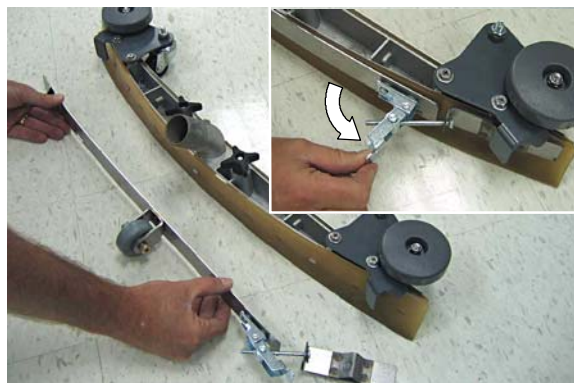

FIG. 46
2. Loosen the band clamp and remove the band from the squeegee assembly (Figure 46).